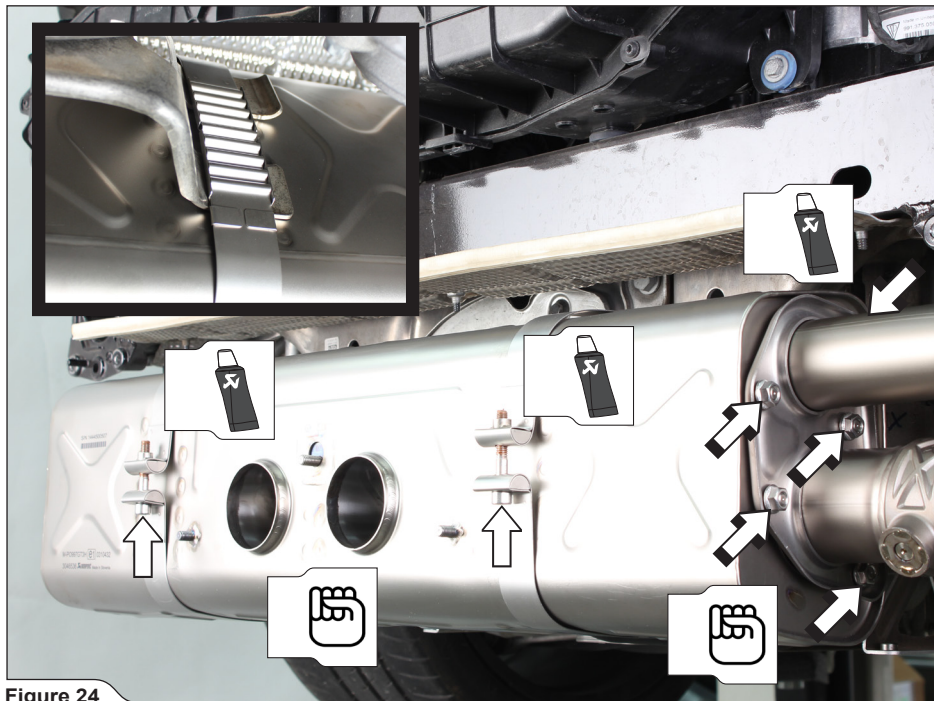

Figure 24
11. Hang Akrapovič central muffler with clamps onto the vehicle brackets, insert link-pipes and hand tighten bolts and nuts (Figure 24).